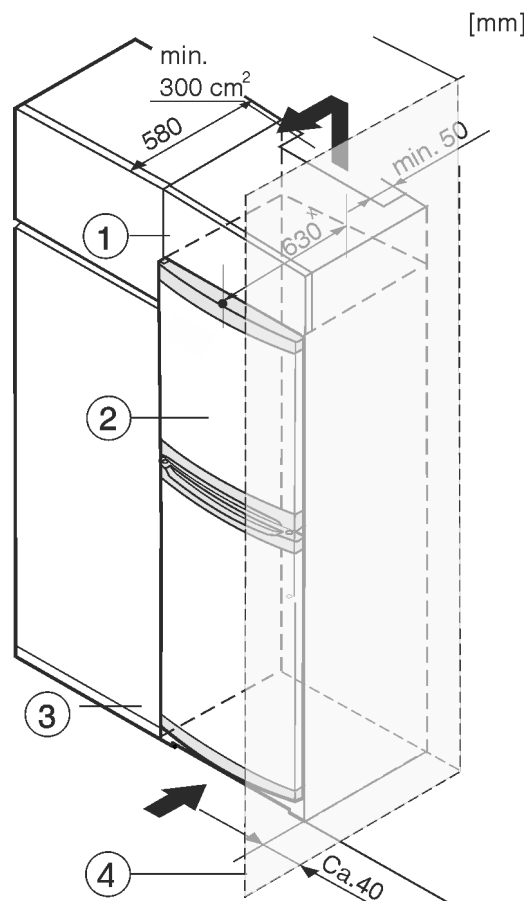

Fig. 8
- (1) Top cupboard
- (2) Appliance
- (3) Kitchen cabinet
- (4) Wall
The appliance can be built into kitchen units. A top cupboard Fig. 8 (1) can be added above the appliance in order to bring the appliance Fig. 8 (2) up to the height of the fitted kitchen units.
When fitting kitchen cupboards around the appliance (max. depth 580 mm), you can install the appliance directly next to the kitchen cupboard *Fig. 8 (3)*. The appliance protrudes 34 mm * to the side and 50 mm * in the centre of the appliance in relation to the kitchen cupboard front.
If the appliance is set up with the hinges next to a wall *Fig. 8 (4)*, the distance between the appliance and the wall must be at least 40 mm. This is how far the handle protrudes when the door is open.